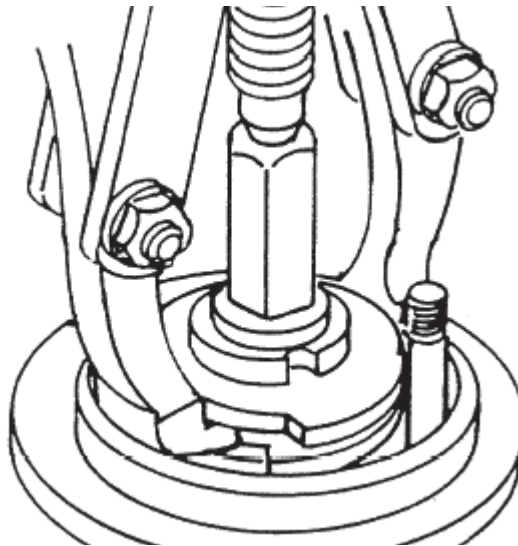

Figure 4-3. Impulse Coupling Cam Removal
5. Install the nut (38) on the end of the rotating magnet (61) shaft to protect the cotter pin holes. Engage the puller over the shaft and align the jaws of the puller under the cam assembly as shown in Figure 4-3.